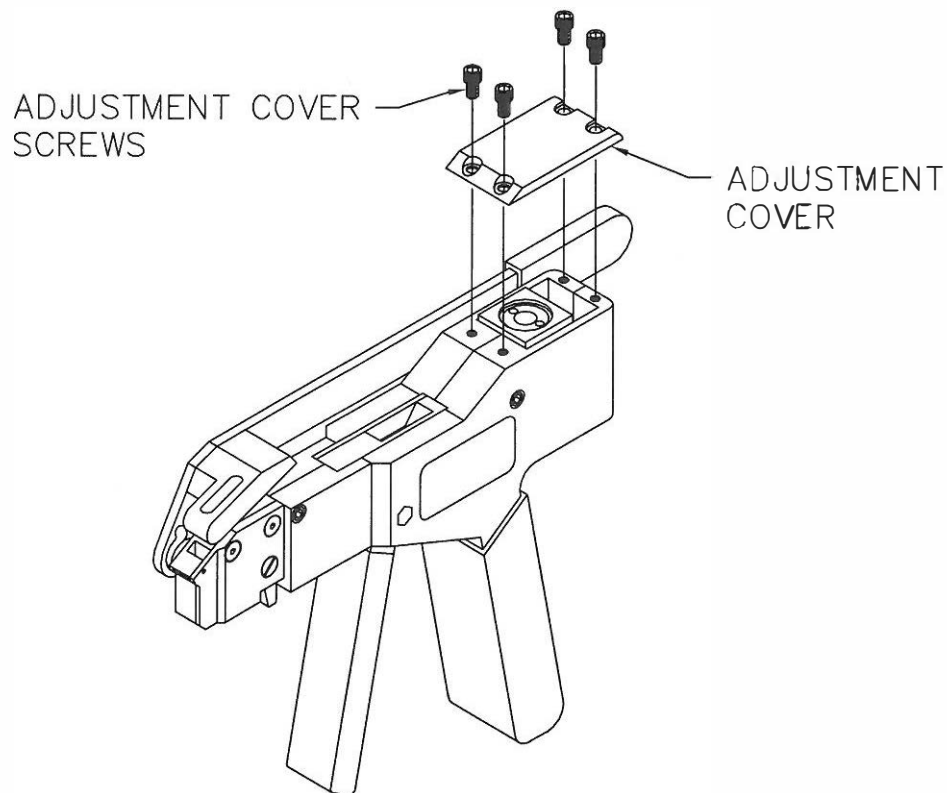

FIGURE 9
- 2.2.1 Remove adjustment cover screws and adjustment cover with a 3/32" hex drive wrench (Figure 9).